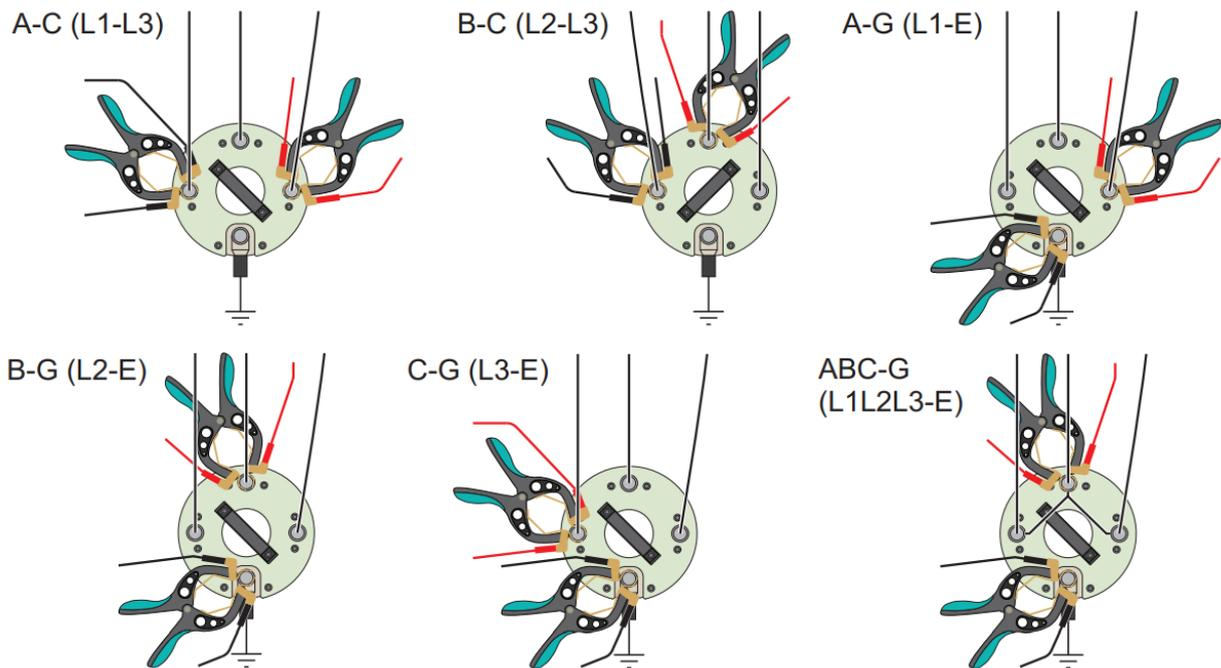

Figure 8: Clamp connections for measurement loops 2-7.
2. Connect the red and black kelvin clamps to the listed studs (see Table 2 and Figure 8: Clamp connections for measurement loops 2-7.).